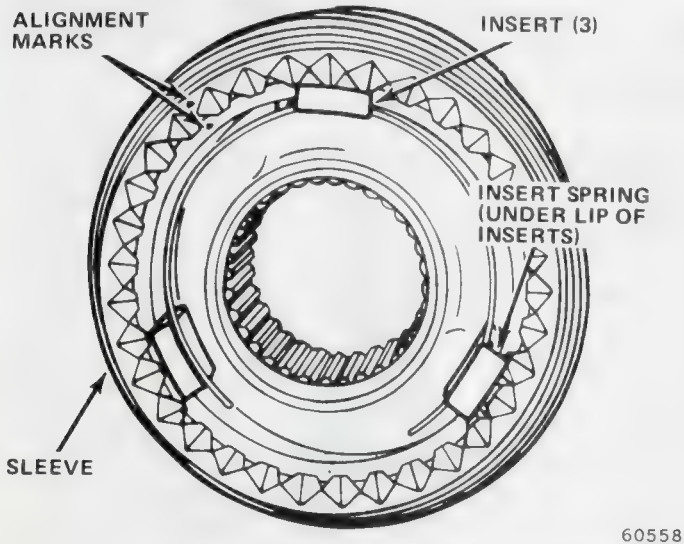

Fig. 2B-15 Second-Third Synchronizer Assembly
(32) Install retaining snap ring on output shaft and measure end play between snap ring and second-third synchronizer hub using feeler gauge (fig. 2B-16). End play should be 0.1016 to 0.3556 mm (0.004 to 0.014 inch). If end play exceeds 0.3556 mm (0.014 inch), replace thrust washer and all snap rings on output shaft assembly.
(33) Install output shaft and geartrain assembly in case. Be sure first-reverse sleeve and gear is in neutral position so gear end of sleeve will clear notch at top of case.
(34) Move second-third sleeve rearward and position second-third shift fork in groove of sleeve. Be sure setscrew hole in shift fork is facing upward.